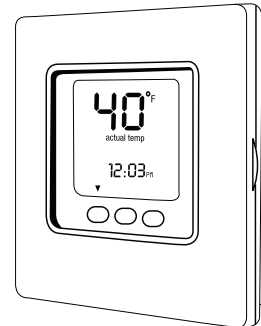

Fig. 15 – Lowest Temperature Setting
1. Set your room thermostat to the lowest temperature setting and set the “MODE” to “OFF” (see Fig. 15).